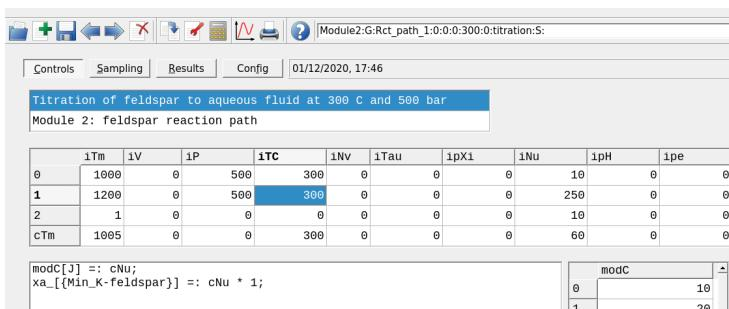

Figure 2.13: The ‘Controls’ window showing a model set up at a different temperature and pressure.
- In the Controls tab change the description of the modeling project and change the temperature to 300 °C and pressure to 500 bar to replace the starting and ending values (Fig. 2.13). Click Save this record to database.